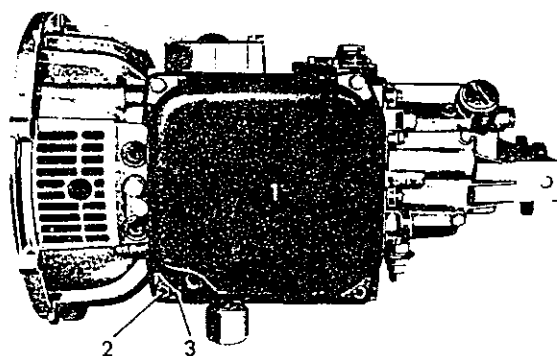

Fig. 59
46 Install oil pan (1) with new gasket, screw down oil pan bolts (2) with corrugated washers and shims (3) and tighten to specified torque **Fig. 59**